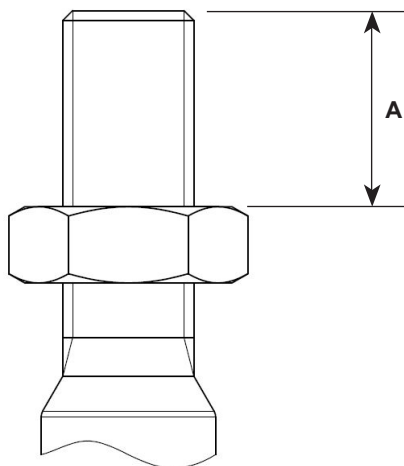

Fig 3. Thread engagement
- Set the valve stem lock nut at the correct Thread Engagement dimension "A" (Figure 3 and Tables on page 14 and 15) for the relevant valve and actuator combination.